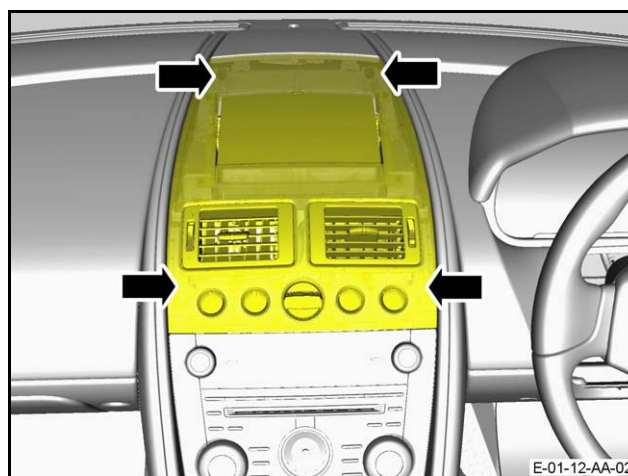

Figure 1
1. Release the four clips that attach the centre-stack instrument panel (refer to Figure 1).